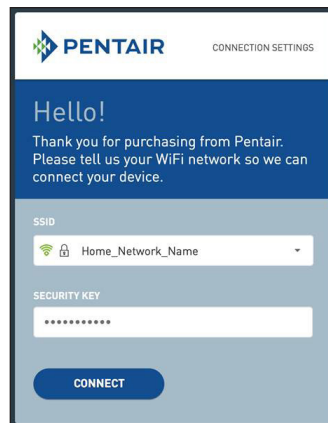

Figure 6
6. Select your home router from the drop down SSID list and enter your router password into the security key field. See **Figure 6**.